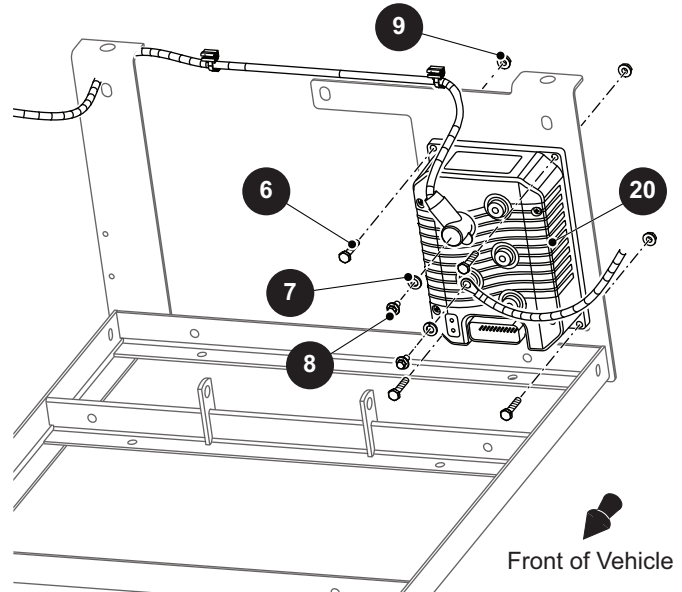

Fig. 10 Controller
- Disconnect the main harness from the controller (20) (Ref Fig. 10).